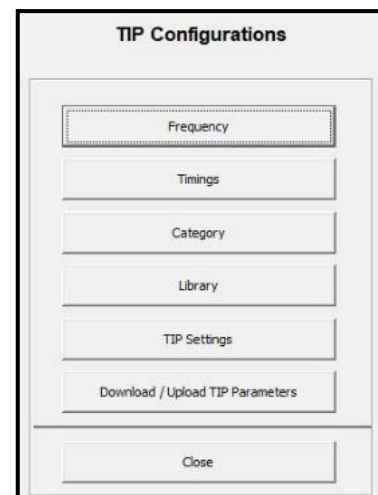
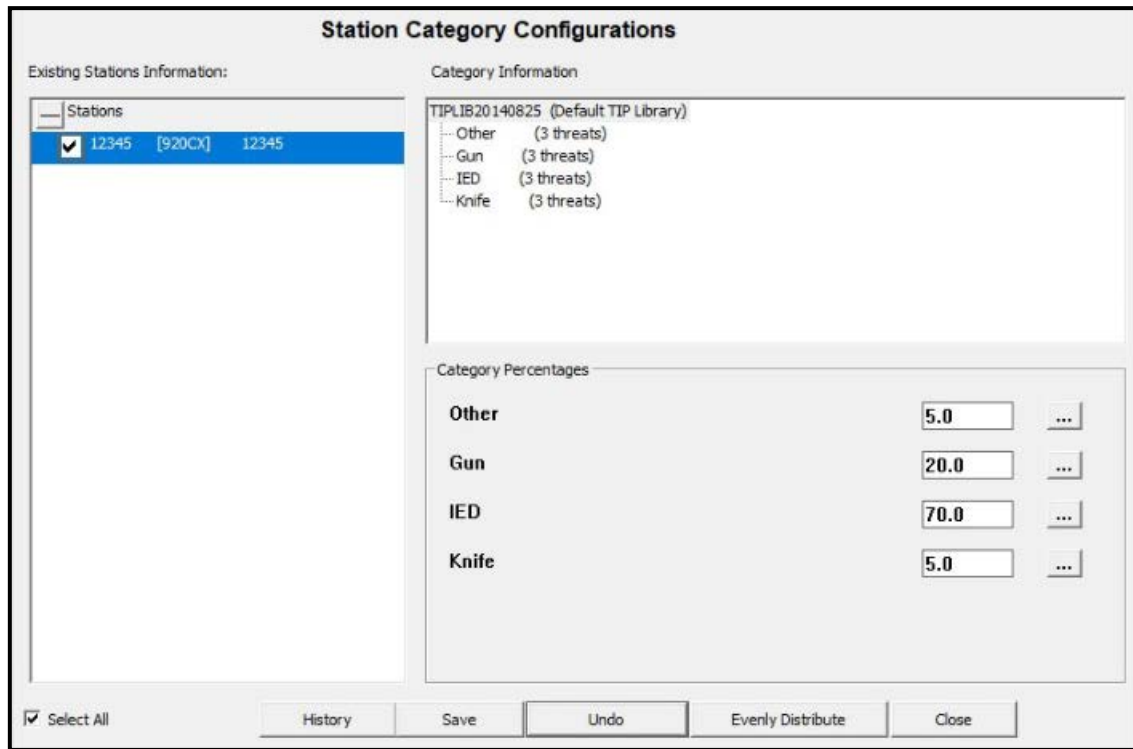
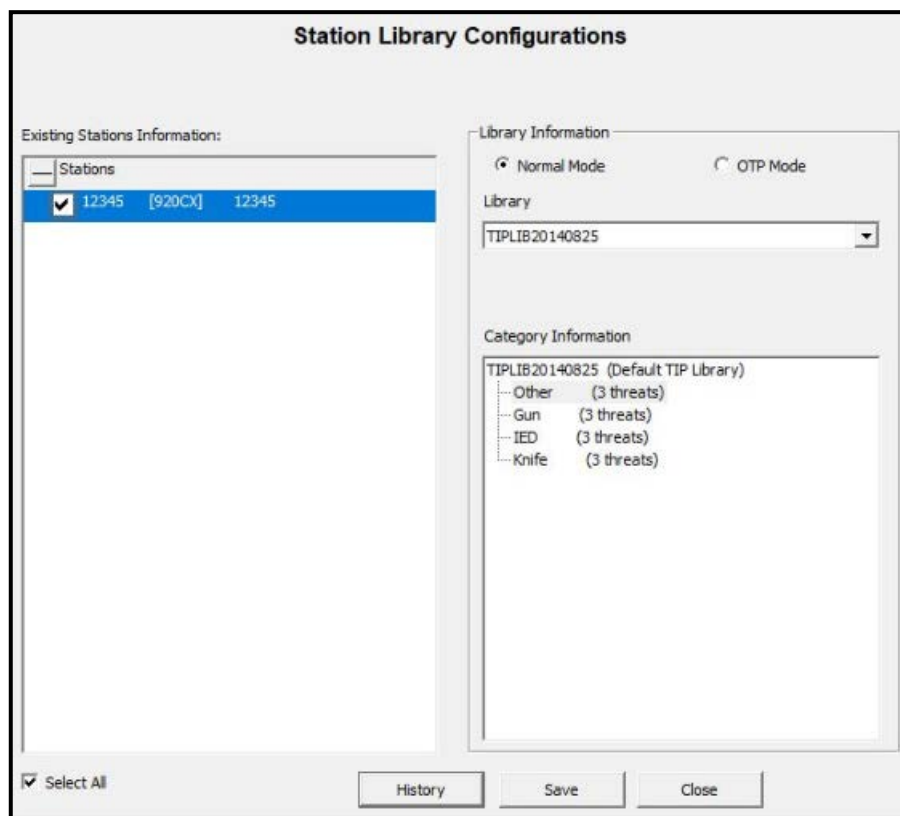
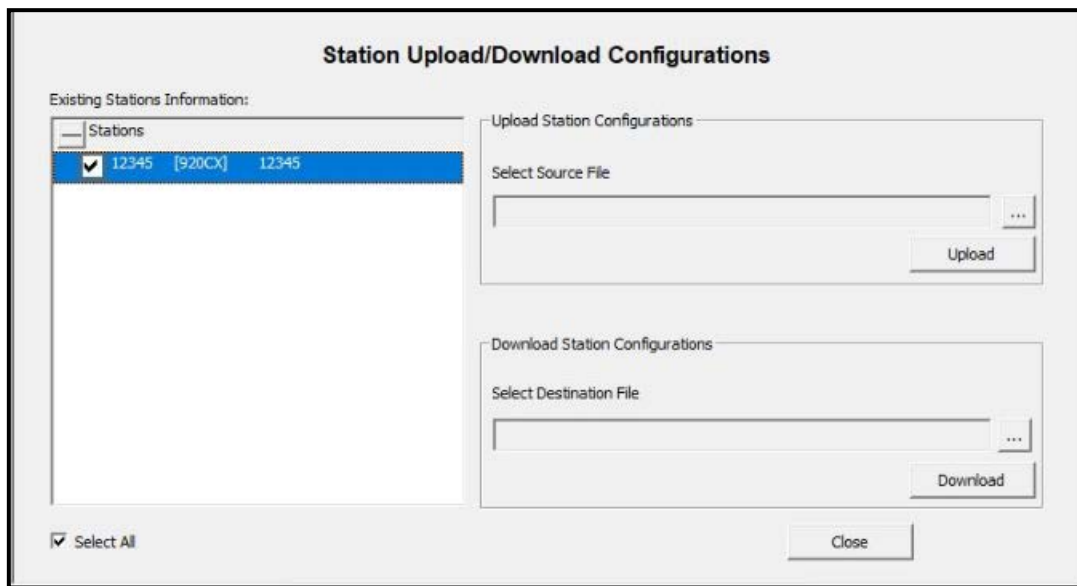

Figure 168: TIP Configurations Menu
Figure 171: Station Category Configurations
Figure 172: Station Library Configurations
Figure 174: Station Upload/Download Configurations
- Selecting **TIP Configurations** displays the **TIP Configurations** menu shown in Figure 168.
- Clicking **Frequency** from the **TIP Configurations** menu, (ref: Figure 168) displays the **Frequency Configurations** screen shown in Figure 169.
Selecting **Timings** from the **TIP Configurations** menu (ref: Figure 168) displays the **TIP-Timing Configuration** screen shown in Figure 170 below.
1. Selecting **Category** from the **TIP Configurations** menu, (ref: Figure 168) displays the **Station Category Configurations** screen shown in Figure 171.
1. Selecting **Library** from the **TIP Configurations** menu, (ref: Figure 168) displays the **Station Library Configurations** screen shown in Figure 172.
1. Selecting **TIP Settings** from the **TIP Configurations** menu, (ref: Figure 168) displays the **TIP Settings** screen shown in Figure 173.
1. Selecting **Download/Upload TIP Parameters** from the **TIP Configurations** menu, (ref: Figure 168) displays the **Station Upload/Download Configurations** screen shown in Figure 174.